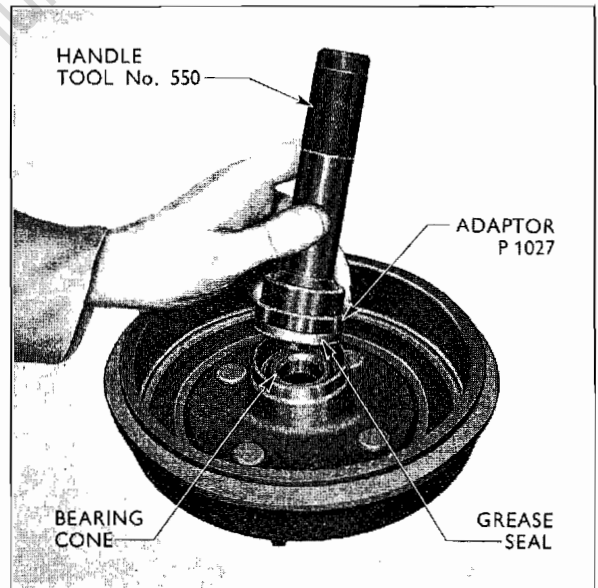

Fig. 3
5. Press the grease retainer into position, using the driver P.1027 with the 550 handle as shown in Fig. 3.